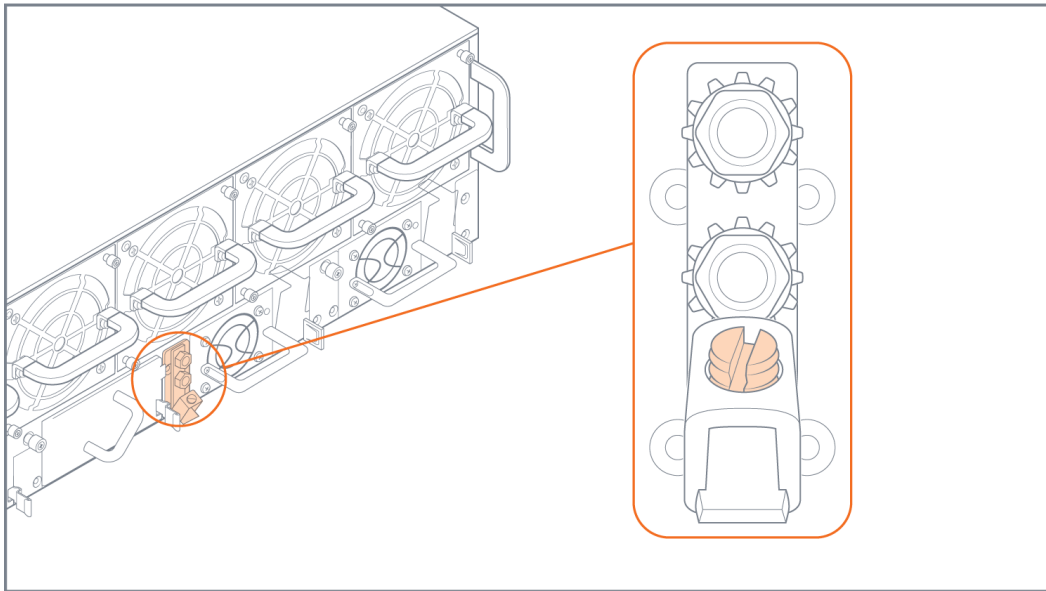
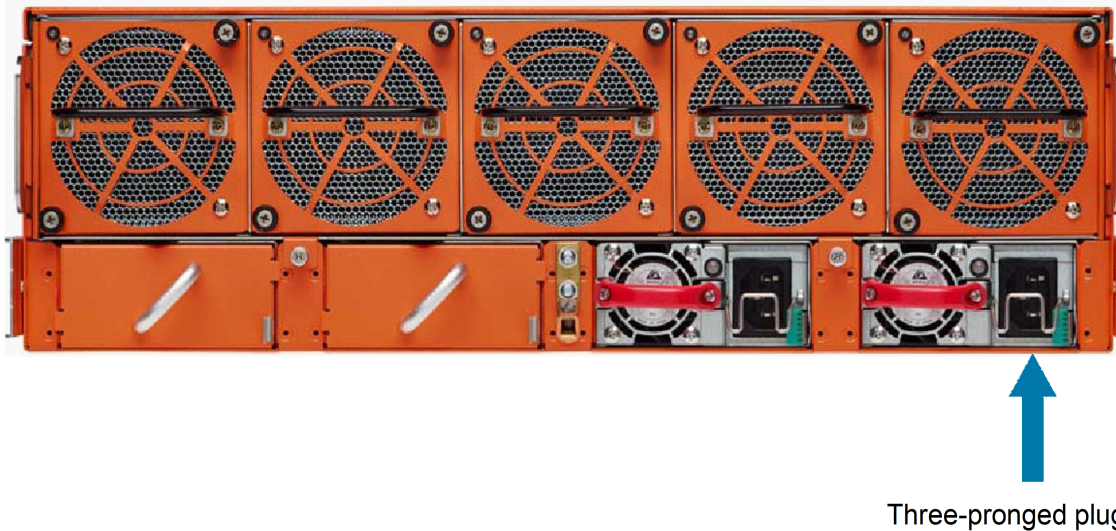

Figure 1 Grounding Lug on Rear of GigaVUE-HC3
Figure 2 Connecting AC Power
1. Locate the grounding lug at the center rear of the chassis. Refer to Figure 1 Grounding Lug on Rear of GigaVUE-HC3 (or Figure 2 Rear View of the GigaVUE-HC3 Chassis) for the location on a GigaVUE-HC3 node.